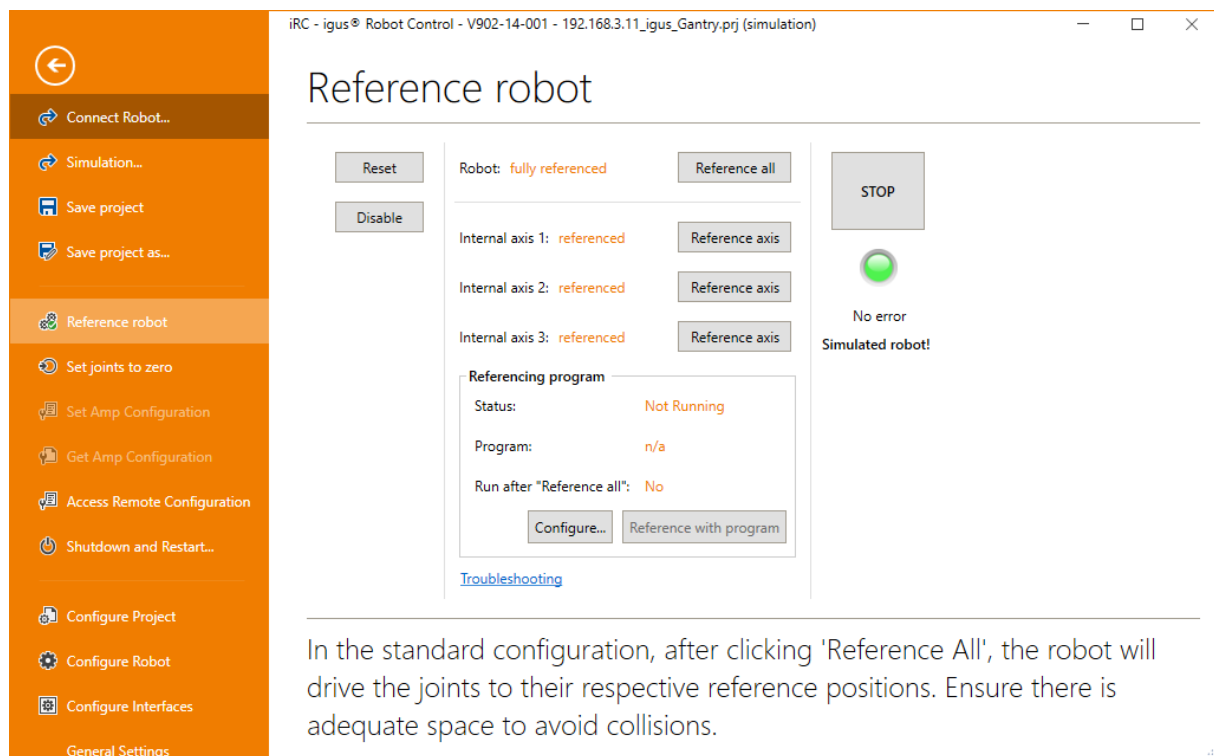

Figure 7: Referencing of the axes.
4. Click on the "Reference Axis" buttons to start referencing an axis, see Fig. 7. Multiple joints can perform referencing in parallel.